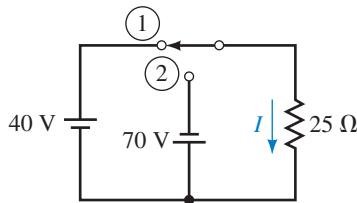

FIGURE 15-75
- Consider the circuit of Figure 15-75. By moving the switch back and forth between positions 1 and 2, you can create a rectangular ac waveform. Suppose you let the switch remain in each position for 1 second,